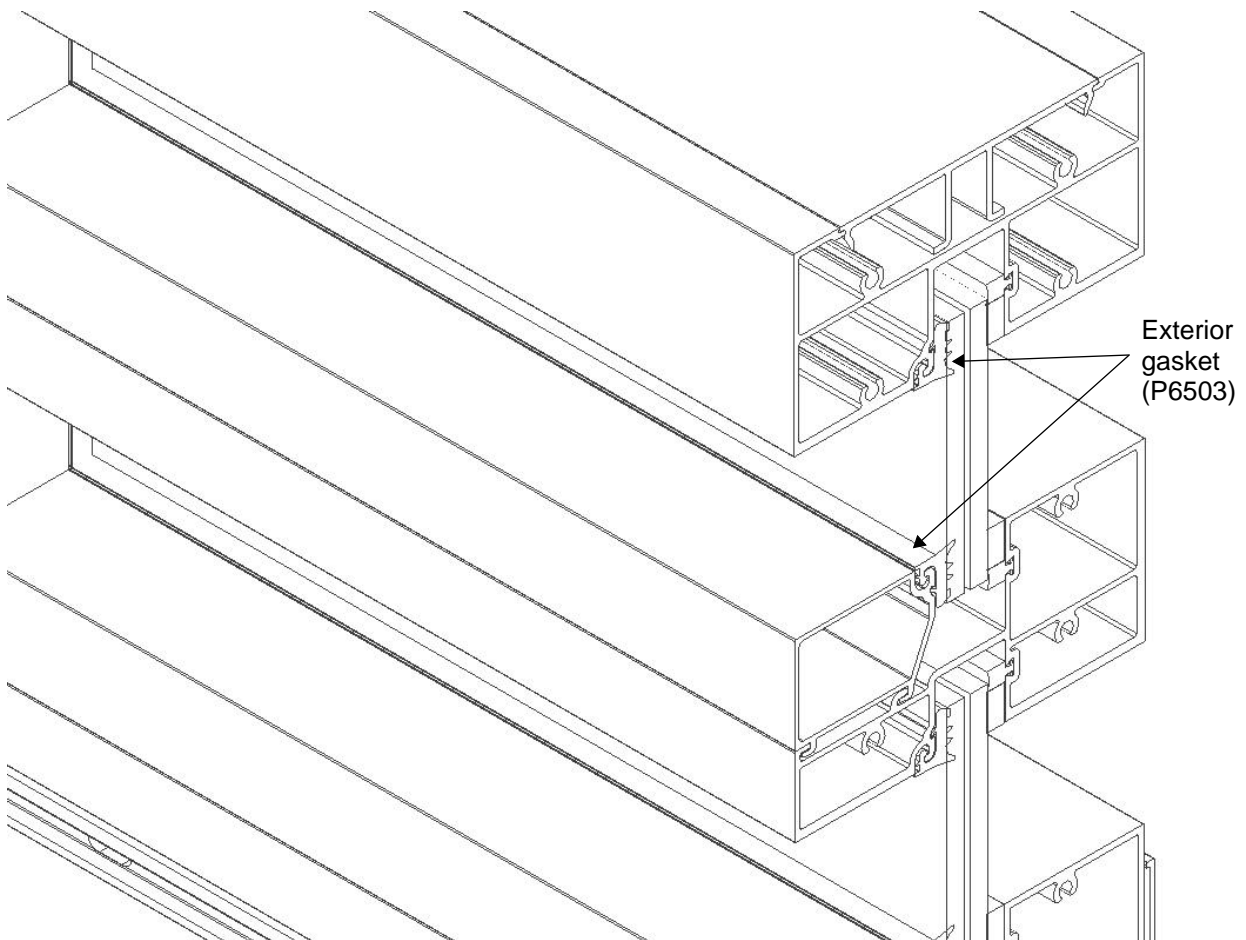

Figure 15: Install the exterior gaskets at each end and work toward the center, firmly pushing the gasket in place.
- Install the exterior gaskets at each end and work toward the center, firmly pushing the gasket in place, as shown in Figure 15.